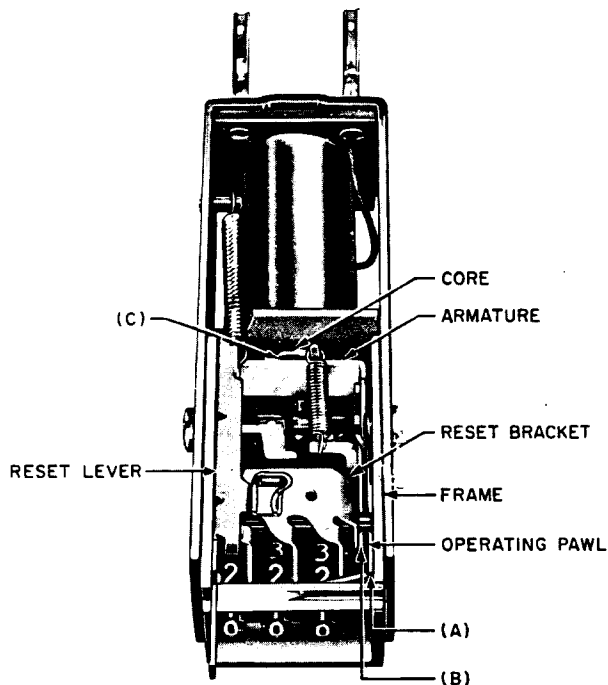

Fig. 4 - Operating Pawl Position
- (b) **Fig. 4 (A)**—With the endplay in the armature taken up to the right, the clearance between the operating pawl and the adjacent side of the frame shall be
(c) *Fig. 4 (B)* — With the endplay in the armature taken up to the left, the operating pawl shall not touch the reset bracket. Gauge by eye.
***2.16 Operated Armature Gap:** Fig. 4 (C) —